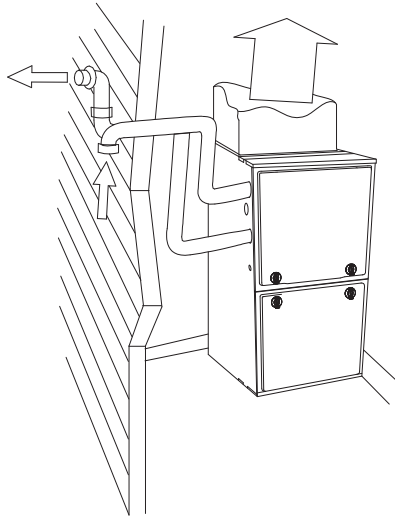
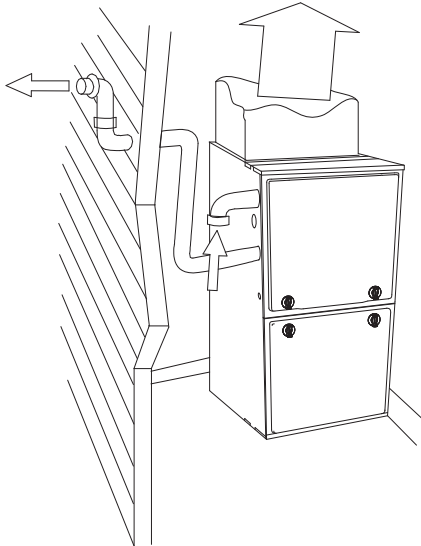

Fig. 2 – Exterior Vent Pipes
Fig. 3 – Interior Combustion - Air Pipe
- Your new gas furnace may have been installed in one of two ways, as a direct-vent (2-pipe-Fig. 2) application or as a non-direct vent (1-pipe-Fig. 3) application.
- In a direct-vent (2-pipe) application, your furnace uses air from outside the home for combustion and vents flue gas to the outdoors. This type of application will have two pipes running from the furnace to the outdoors. In some cases, the inlet air pipe may be located in an area that has access to outdoor air, such as an attic. In all cases, the outlet vent pipe must be routed to the outdoors (see Fig. 2). In this application, the vent and air-intake pipes must terminate outside the structure and must not be obstructed in any way. Do not block or obstruct air openings on furnace or spaces around furnace.
- In a non-direct vent (1-pipe) application, your furnace uses air from adjacent to the furnace for combustion and vents flue gas to the outdoors. This type of application will have only one pipe running from the furnace to the outdoors (see Fig. 3). The other pipe will terminate in the same space as the furnace and is the source of combustion air for your furnace. Therefore, the furnace must not be enclosed in an airtight room or be sealed behind solid doors. It must have adequate airflow for efficient combustion and safe ventilation. Do not obstruct the combustion-air pipe in any way. The vent pipe must terminate outside the structure and must not be obstructed in any way. Do not block or obstruct air openings or space around furnace.